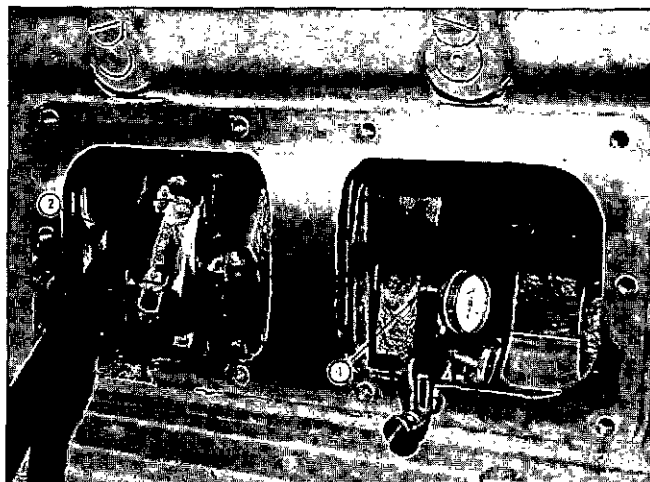

Fig. 5-41, V41924. Checking crankshaft end clearance
The check can be made by attaching an indicator (1, Fig. 5-41) to rest against flywheel/crankshaft while prying (2) against a crankshaft throw through an inspection hole if the oil pan is not removed. End clearance must be present with engine mounted in unit and assembled to transmission or converter.